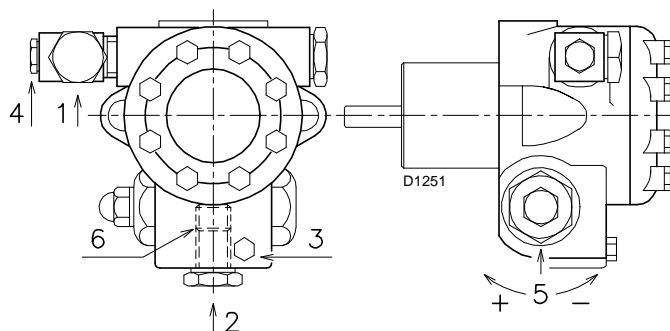
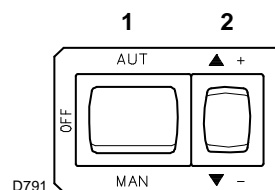

Fig. 21
Fig. 22
For the priming pump loosen the screw 3)(Fig. 21) in order to bleed off the air contained in the suction line and wait until the fuel flows out.
- For self-priming to take place, one of the screws 3 (Fig. 21) of the pump, must be loosened in order to bleed off the air contained in the suction line.
- Start the burner by closing the control devices, with switch 1 (Fig. 22) in the "MAN" position and with switch 6 (Fig. 6 at page 13) in the "OIL" position.
- The pump can be considered to be primed when the gas oil starts coming out of the screw 3 (Fig. 21). Stop the burner: switch 1 (Fig. 22) set to "OFF" and tighten the screw 3).